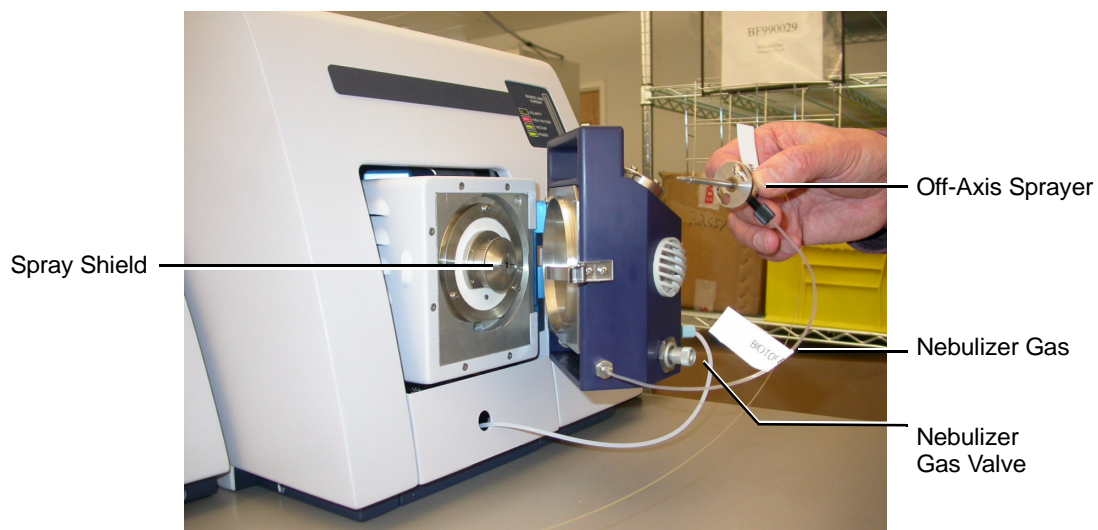

Figure 4-6 Off-Axis Sprayer Assembly
The next step is to check the Sprayer Assembly on the front of the ESI Source. The assembly is attached to the ESI Source with hinges on the right and locked with a latch on the left. A sample is introduced to the spray chamber via an off-axis spray needle which is held in position by a bayonet connection. Figure 4-6 shows the sprayer assembly unlatched and open, and the off-axis sprayer removed from the assembly.
1. Release the latch on the left side of the assembly and swing the assembly out so that the spray shield (Figure 4-6) is visible.